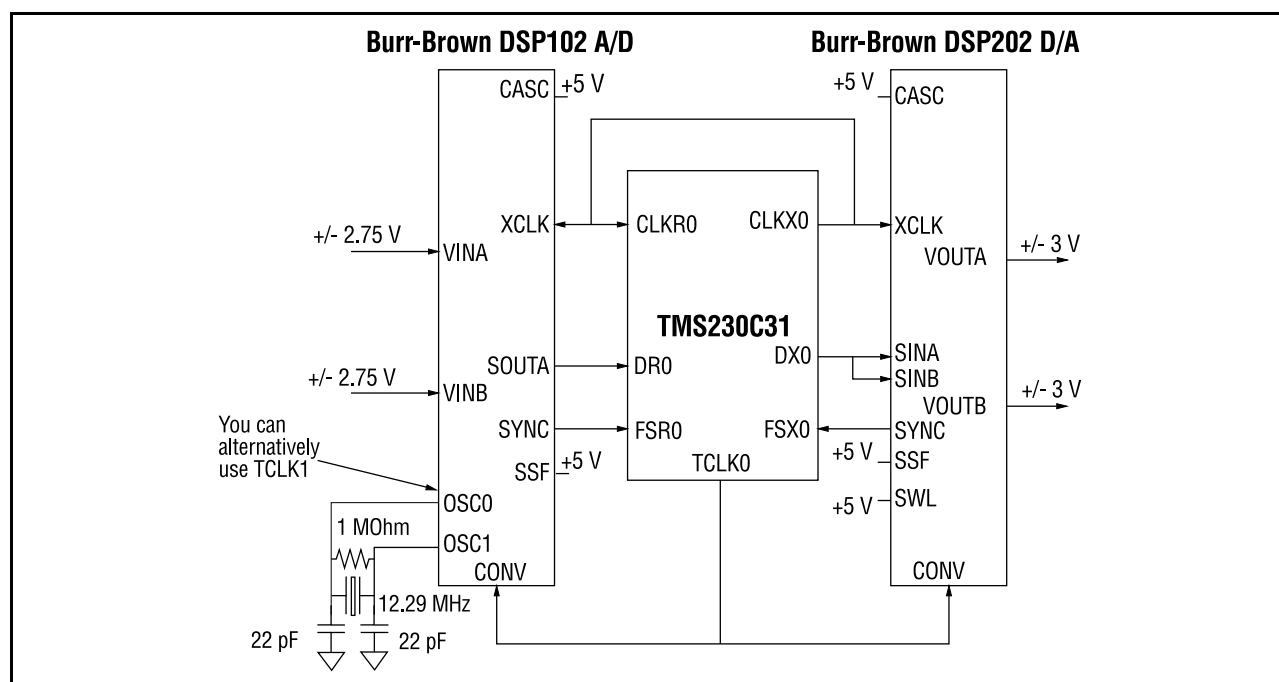

Figure 1. 'C31 zero glue-logic interface to Burr-Brown A/D and D/A
**Solution** The TMS320C3x DSPs are designed to easily interface with 16-bit A/D and D/A devices for audio and data acquisition applications. The following figure shows how to interface the TMS320C31 with zero glue-logic to Burr-Brown's DSP201/2 and DSP101/2 family of D/A and A/D devices. An efficient, low-cost, stereo, digital audio interface using a 'C31 and the DSP202 and DSP102 dual-channel D/A and A/D chips is shown in Figure 1.